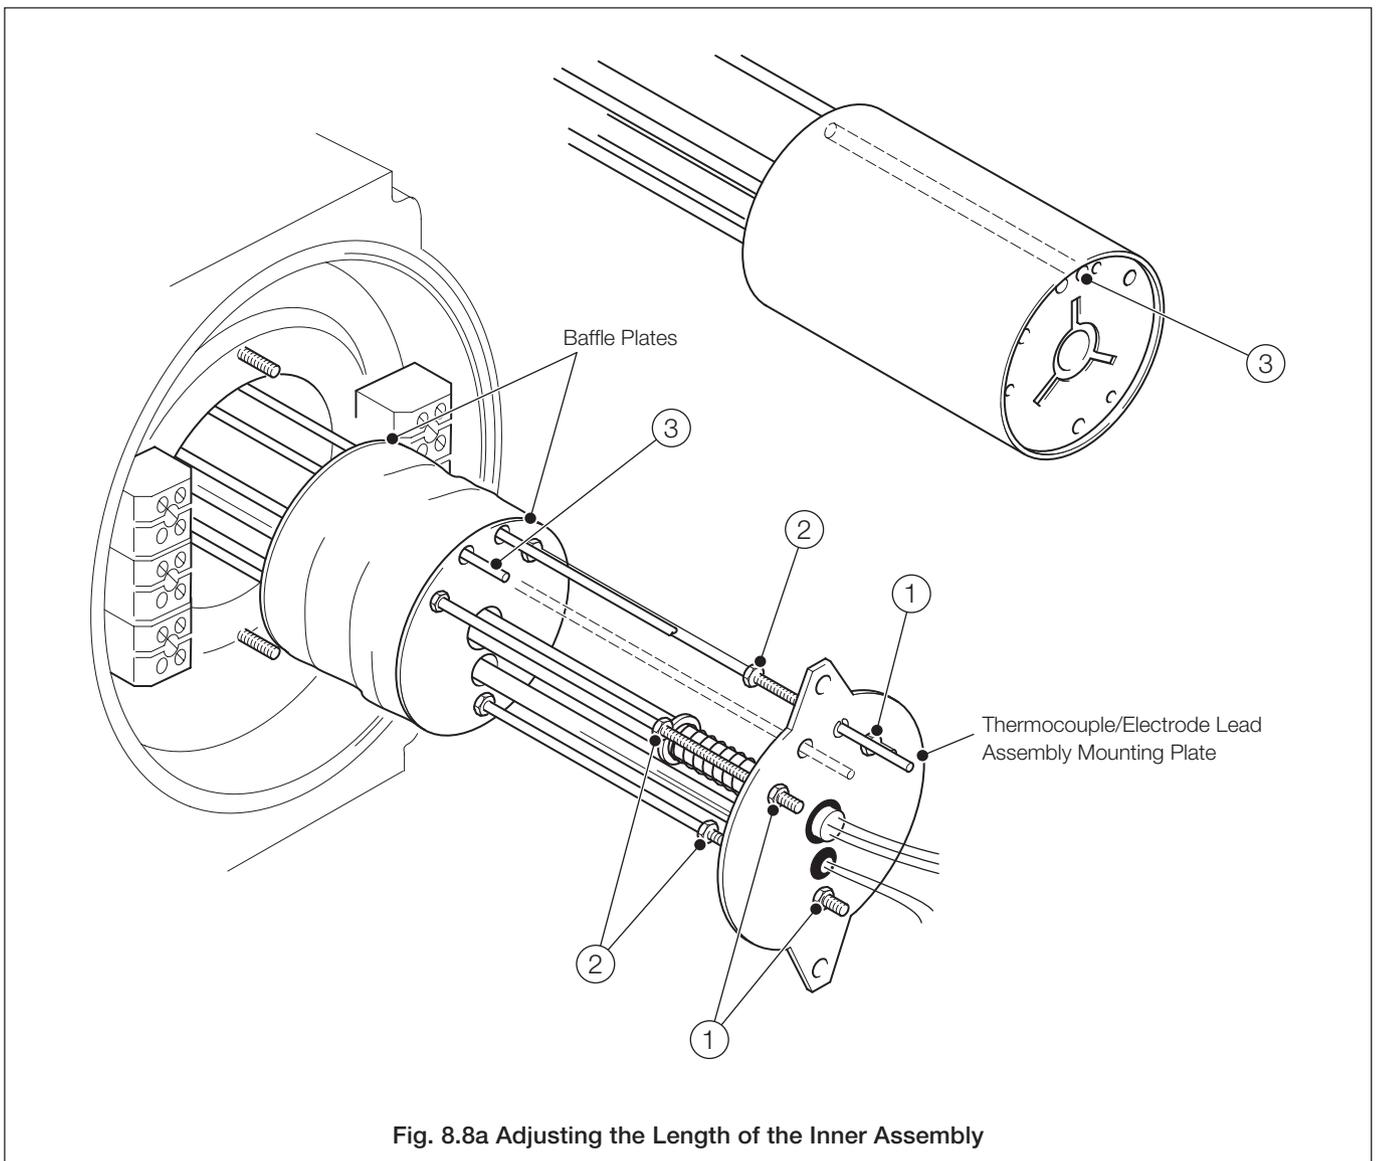

Fig. 8.8a Adjusting the Length of the Inner Assembly
8.9 Adjusting the Length of the Inner Assembly (all Probes) – Figs. 8.8A and 8.8B
Referring to Fig. 8.8a:
...8.9 Adjusting the Length of the Inner Assembly (all Probes) – Figs. 8.8A and 8.8B